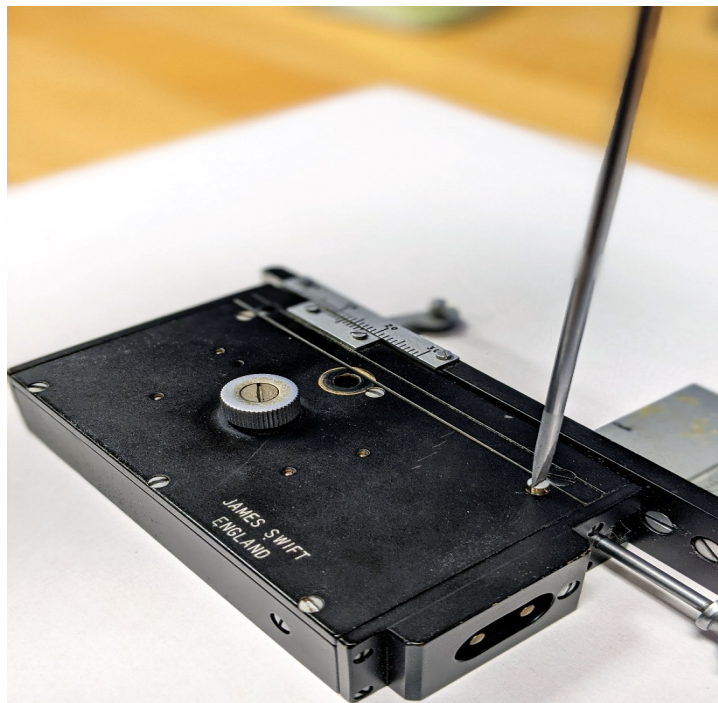

Figure 23: Taking out screw.
1. Grab a flathead screwdriver and remove the six screws attaching the front plate to the unit (Figure 23).